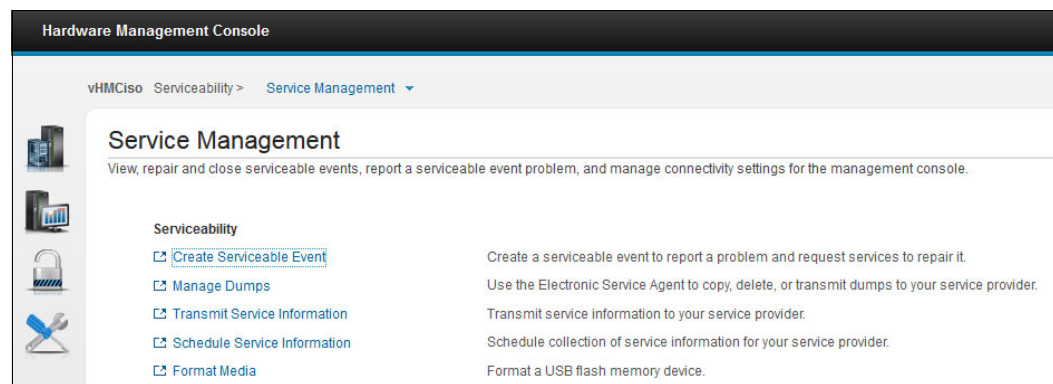

Figure 6-6 Service Management menu
1. In the navigation area, click the **Serviceability** icon, and then select **Service Management**. The Service Management area opens (Figure 6-6).